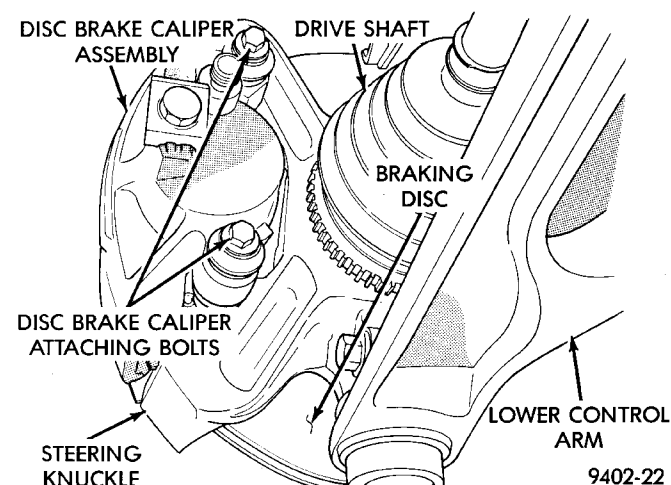

Fig. 16 Disc Brake Caliper Attaching Bolts
(4) Remove the front tire and wheel.
(5) Remove front disc brake caliper to steering knuckle attaching bolts (Fig. 16).
(8) Install the disc brake caliper to steering knuckle attaching bolts (Fig. 16). Tighten the caliper attaching bolts to a torque of 31 N·m (23 ft. lbs.).